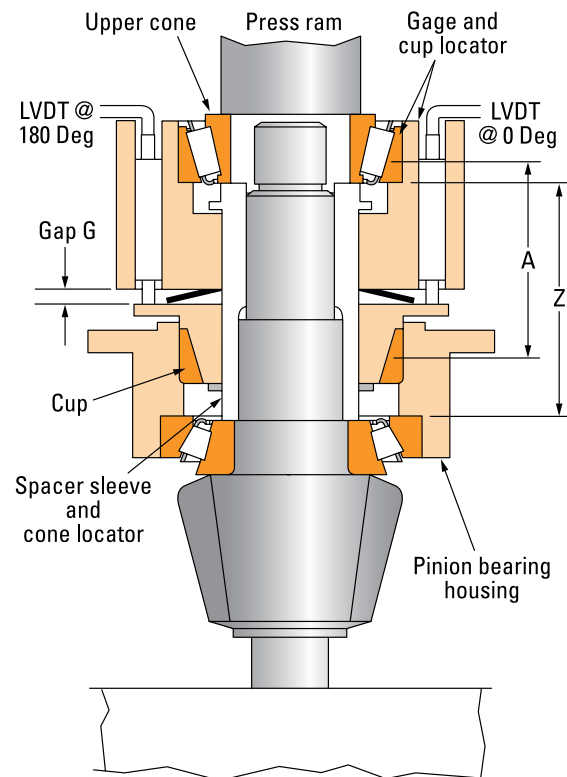

Figure 13. PROJECTA-SET Gauging Example With Pinion Shaft
To illustrate the PROJECTA-SET method, reference a typical spiral bevel pinion shaft assembly (Figure 13). In this indirect-mounted cone adjusted design, the bearing setting is achieved through the use of a spacer located between the two cone front faces. The cups and cones are tight fitted in this application. The required gauging steps are:
1. Place the assembled pinion shaft, except for the upper cone and spacer, on the press table. Position the gauge onto the upper bearing cup and apply the upper bearing cone (Figure 13).
4. The spacer size is determined by the gauge based on the formula (Figure 13):  $S = Z - A + K$